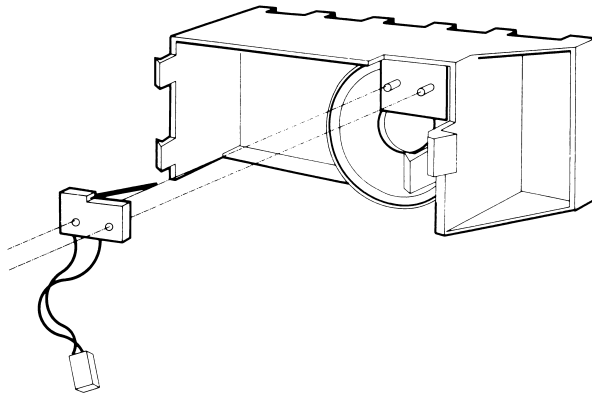

Figure 7-28. Removing the Security Lock Switch.
4. Disconnect the speaker connector and security lock switch connector (COMPAQ DESKPRO 286) from the system board (see Figure 7-28).
5. To remove the security lock switch (COMPAQ DESKPRO 286), gently pull the switch assembly away from the card guide/speaker enclosure (Figure 7-28).